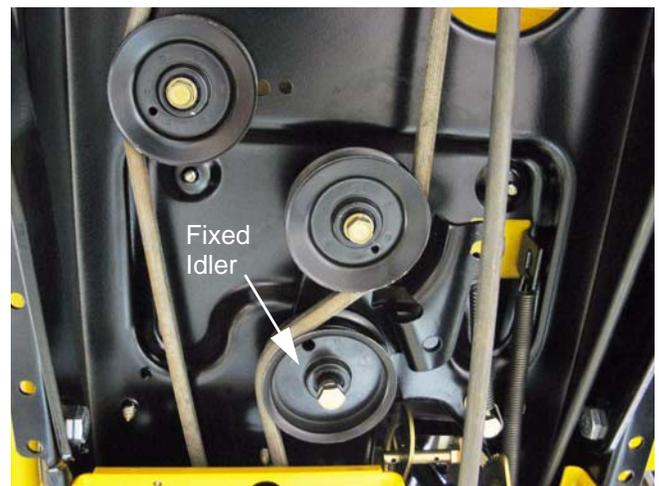

Figure 30.12
30.12. The fixed idler pulley can be removed from later models using a single 1/2" wrench. The bolt that holds the fixed idler to earlier models threads into a 3/8" nut above the tractor frame. The bolt can be removed from the nut using a pair of 9/16" wrenches without removing the fenders. See Figure 30.12.